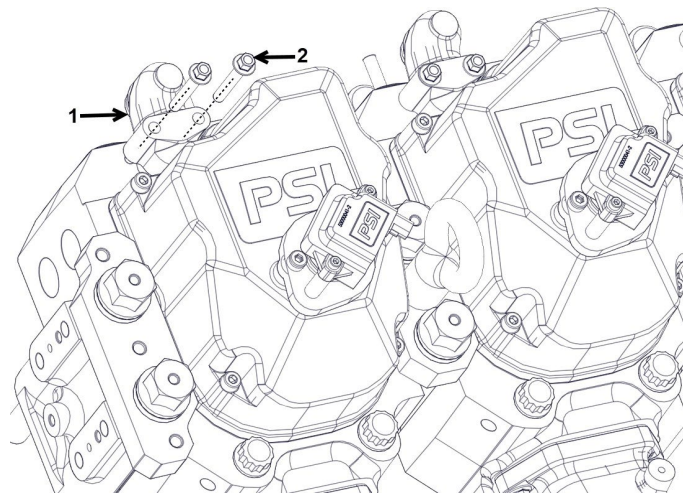

Figure 76.
13. Reinstall the coolant pipe (Figure 76, Item 1) onto the cylinder head and torque down the two bolts (Figure 76, Item 2).